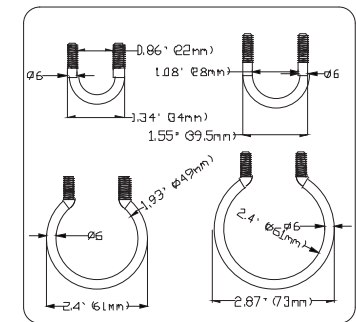
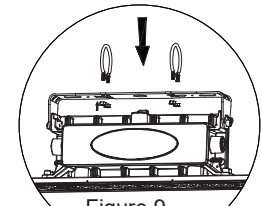

Figure 8
Figure 9
1. Can be equipped with 4 sizes of round tube light poles, the sizes are as following :Ø21mm、Ø27mm、Ø48mm、Ø60mm (Figure 8).
2. Select the appropriate bolts (Figure 8), assemble the bolts to the fixture, and install the nuts (Figure 9).